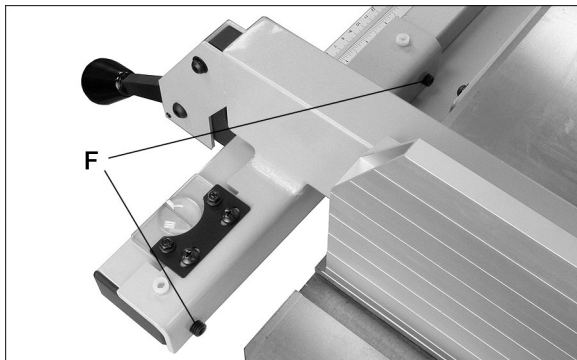

Figure 12
2. If adjustment is needed, use one of the back adjustment screws (F, Figure 12) to turn fence in line with miter slot (5mm hex key).
The tightness of fence against guide rail tube can be adjusted by rotating back adjustment screws (F, Figure 12). Rotate the two screws *equally* (clockwise to tighten).